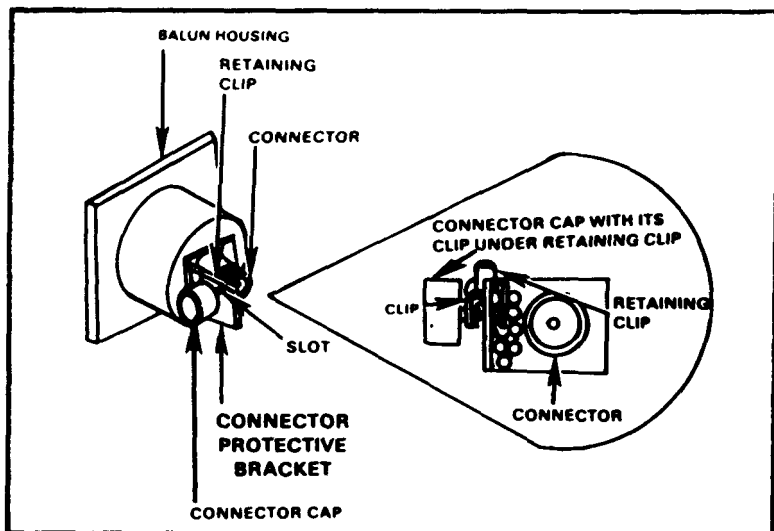
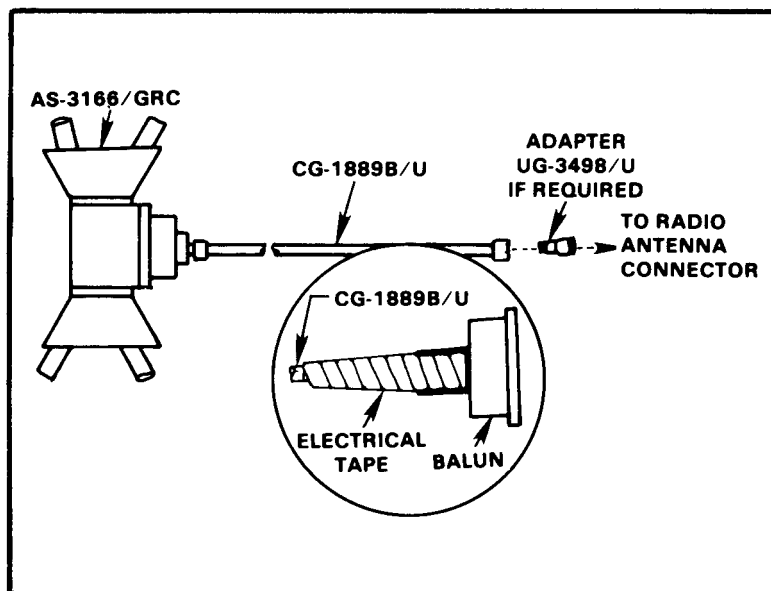
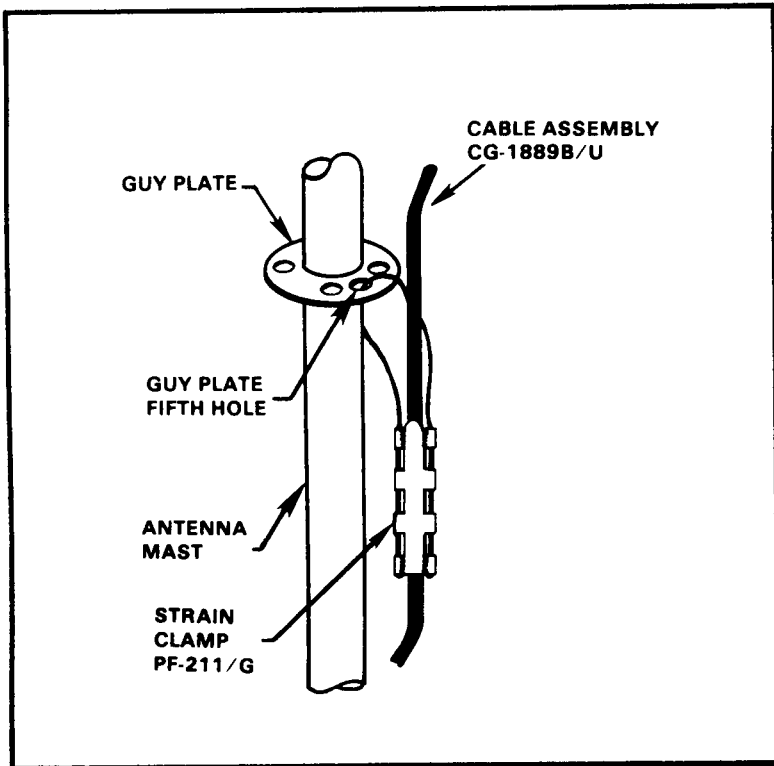

Figure 3-11. Captivating feed cone assembly connector cap.
Figure 3-12. Connections of CG-1889B/U to AS-3166/GRC and radio.
Figure 3-13. Strain clamp closed.
<ol style="list-style-type: none"> <li>a. Unscrew the connector cap of the feed cone assembly connector and secure the cap to the connector protective bracket (Figure 3-11).</li> <li>b. Connect the RF Cable CG-1889B/U to the feed cone assembly connector (Figure 3-12).</li> <li>c. Compress and open the strain relief clamp. Pass the cable of the clamp through the fifth hole of the upper guy plate (Figure 3-13). Secure the cable in the clips of the clamp.</li> <li>d. Attach the strain relief clamp to the RF cable. Close and release the clamp.</li> <li>e. Tape the RF cable connection (Figure 3-12) and tape the cable to the insulating extension just below the feed cone assembly. Tape the cable to the mast every 5 feet all the way to the bottom of the mast.</li> </ol>
**NOTE:** For AN/VRC-12 family FM radios with BNC type antenna connectors, use the UG-349B/U adapter on the end of the CG-1886B/U RF cable (Figure 3-12).